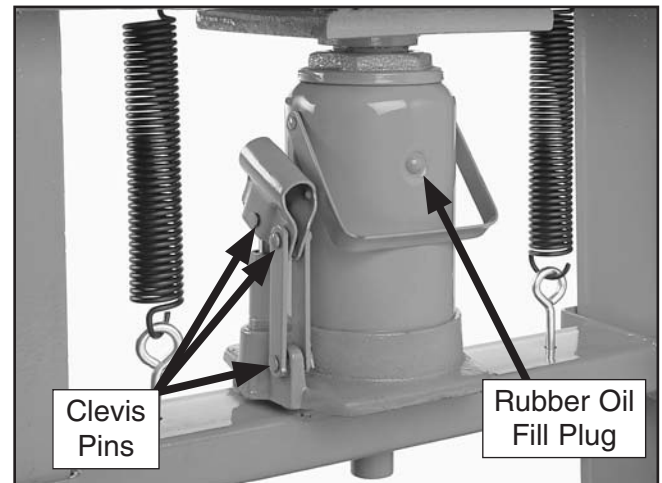

Figure 22. Oil fill and clevis pin locations.
1. Using a hand-held oil gun, apply one or two drops of any standard machine oil or motor oil to all clevis pins, as shown in **Figure 22**.
2. With the press completely retracted in the uppermost position, remove the rubber plug (**Figure 22**), and fill the bottle jack reservoir with any standard hydraulic oil until oil runs from the port. Reinstall the plug.